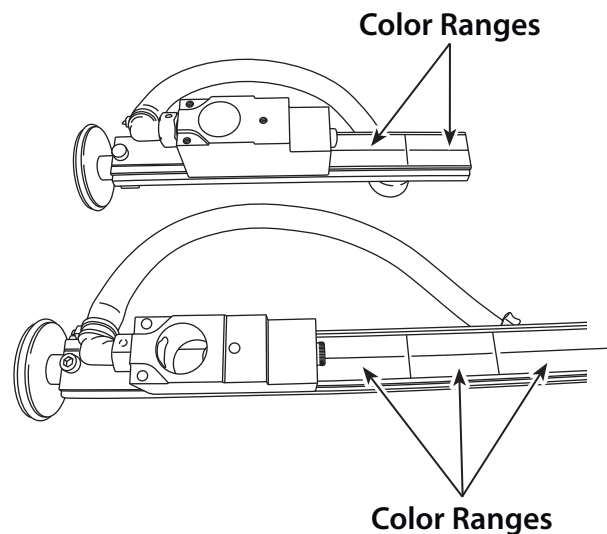

Figure 22
1. There are color ranges on the nozzle arm. (Figure 22) Determine the color range where the nozzle is resting under the nozzle arm. Set the Selector Switch on the Control Panel at the same color.